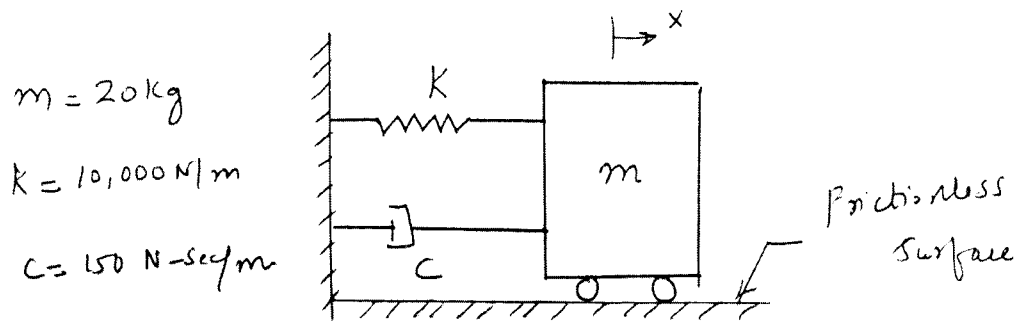

Fig.Q4(b)
- b. For the system shown in Fig.Q4(b), determine: